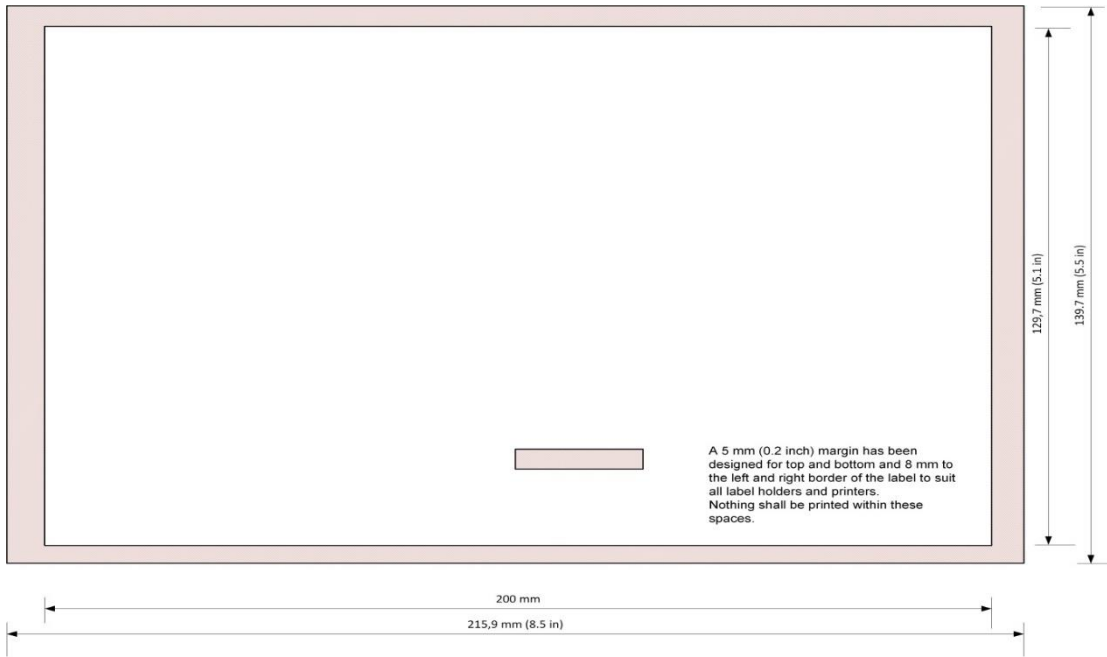

Figure 4 Label Half Letter size
| Figure 4 Label Half Letter size..... | 9 |
- b. Half letter 216mm x 140mm – see Figure 4